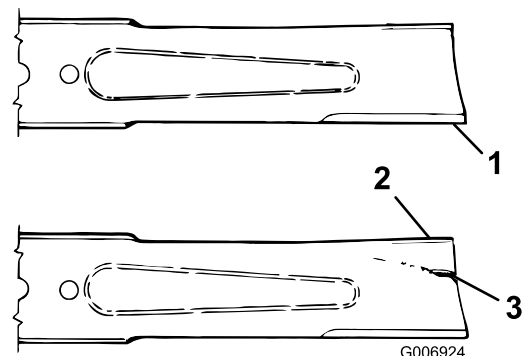

Figure 60
2. Examine the cutting ends of the blade carefully, especially where the flat and curved parts of the blade meet (Figure 60). Since sand and abrasive material can wear away the metal that connects the flat and curved parts of the blade, check the blade before using the machine. If wear is noticed (Figure 60), replace the blade; refer to Removing the Cutter Blade.
If the blade is allowed to wear, a slot will form between the sail and flat part of the blade (Figure 60). Eventually a piece of the blade may break off and be thrown from under the housing, possibly resulting in serious injury to yourself or bystanders.